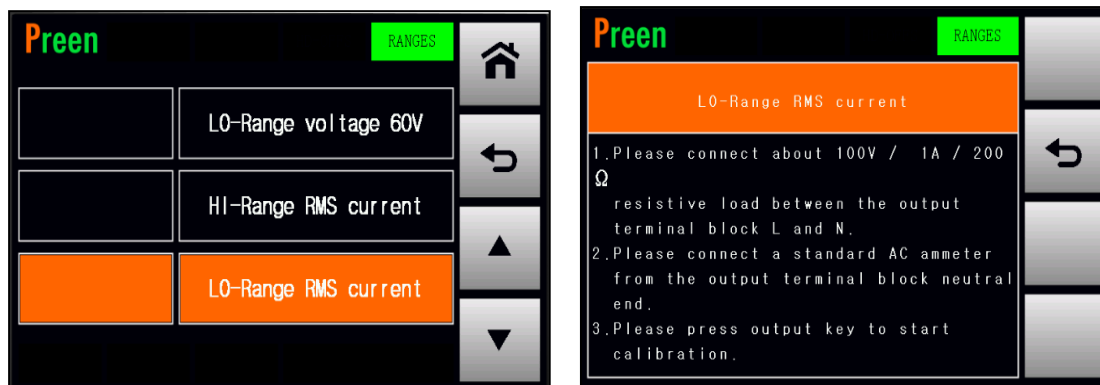

Figure 4.15 Enter the page which calibrates the LO-Range RMS current
1. Press the item LO-Range RMS current repeatedly to enter the page which calibrates the LO-Range RMS current (refer to Figure 4.15).